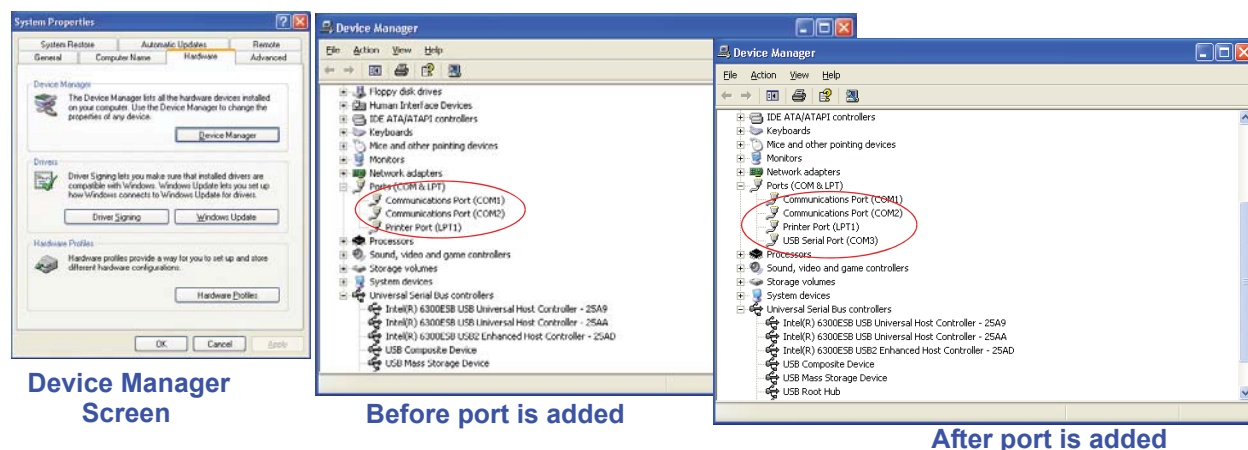

Figure 7-3 Example Device Manager Screens
- Identify the computer port that has been added to the PC by using the “Properties” of My Computer and examining the COM ports. USB ports are generally added to the bottom of the list and named USB COM port 'x'. Refer to Figure 7-3 for screen examples (Windows XP).